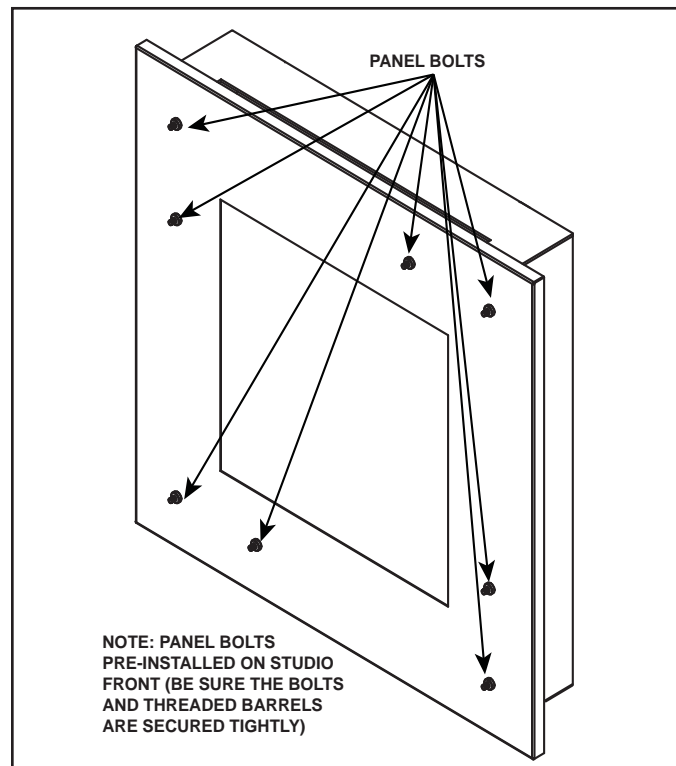

Figure 4. Panel Bolts
8. Install the four decorative panels onto the panel bolts on the decorative front. Be sure the bolts and threaded barrels are secured tightly. See Figure 4. The required hardware, excluding the knobs, is shipped with the decorative front. Refer to Figure 6 for steel panels and Figure 7 for glass panels to determine the specific hardware needed. Figure 8 shows the order in which the hardware and panels are installed.